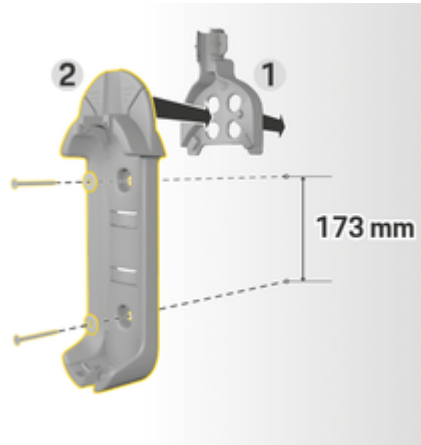

Fig. 6: Drilling dimensions
3. Press standard wall bracket 2 (Fig. 6) into cable guide 1 (Fig. 6) from the front.